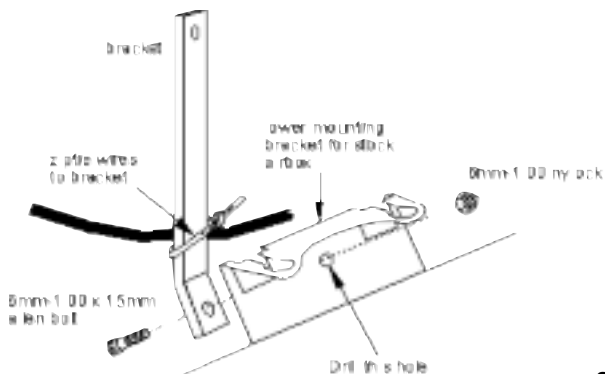

fig. 1
- 8) Remove the plastic clip from the lower airbox mount on the vehicle. This hole must be drilled out to 1/4". Loosely install the bracket with the supplied hardware. Use the supplied zip tie to secure the wires. (See fig. 1)